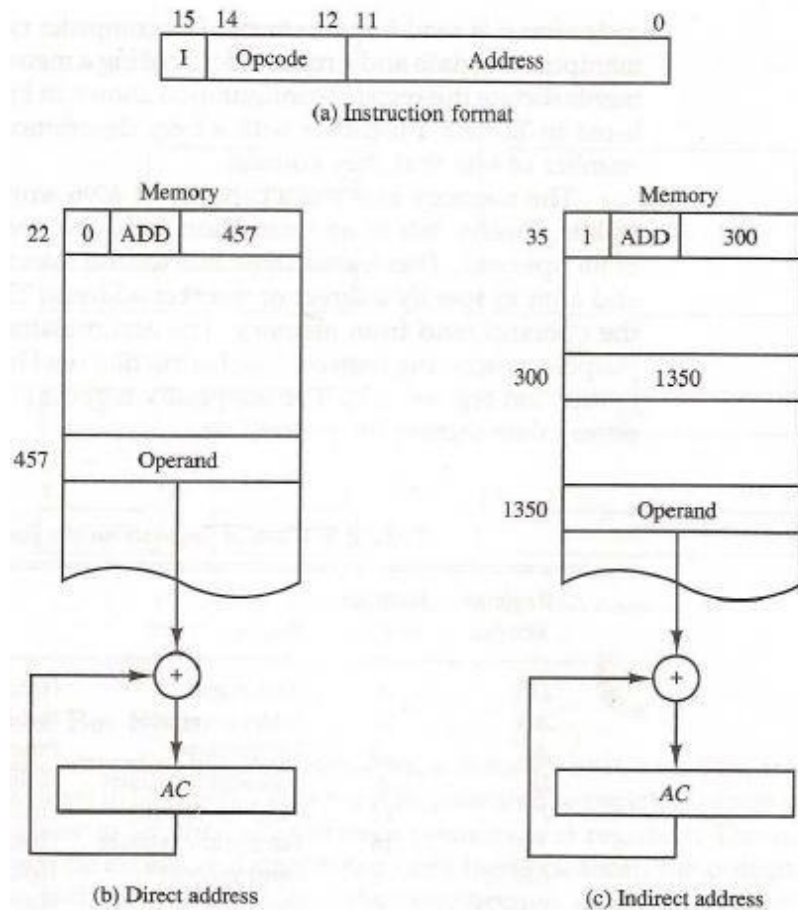

Figure 5-2 Demonstration of direct and indirect address.
- The instruction code format shown in Fig. 5-2(a). It consists of a 3-bit operation code, a 12-bit address, and an indirect address mode bit designated by I. The mode bit is 0 for a direct address and 1 for an indirect address.
- A direct address instruction is shown in Fig. 5-2(b).
- The instruction in address 35 shown in Fig. 5-2(c) has a mode bit I = 1.
- Thus the effective address in the instruction of Fig. 5-2(b) is 457 and in the instruction of Fig 5-2(c) is 1350.